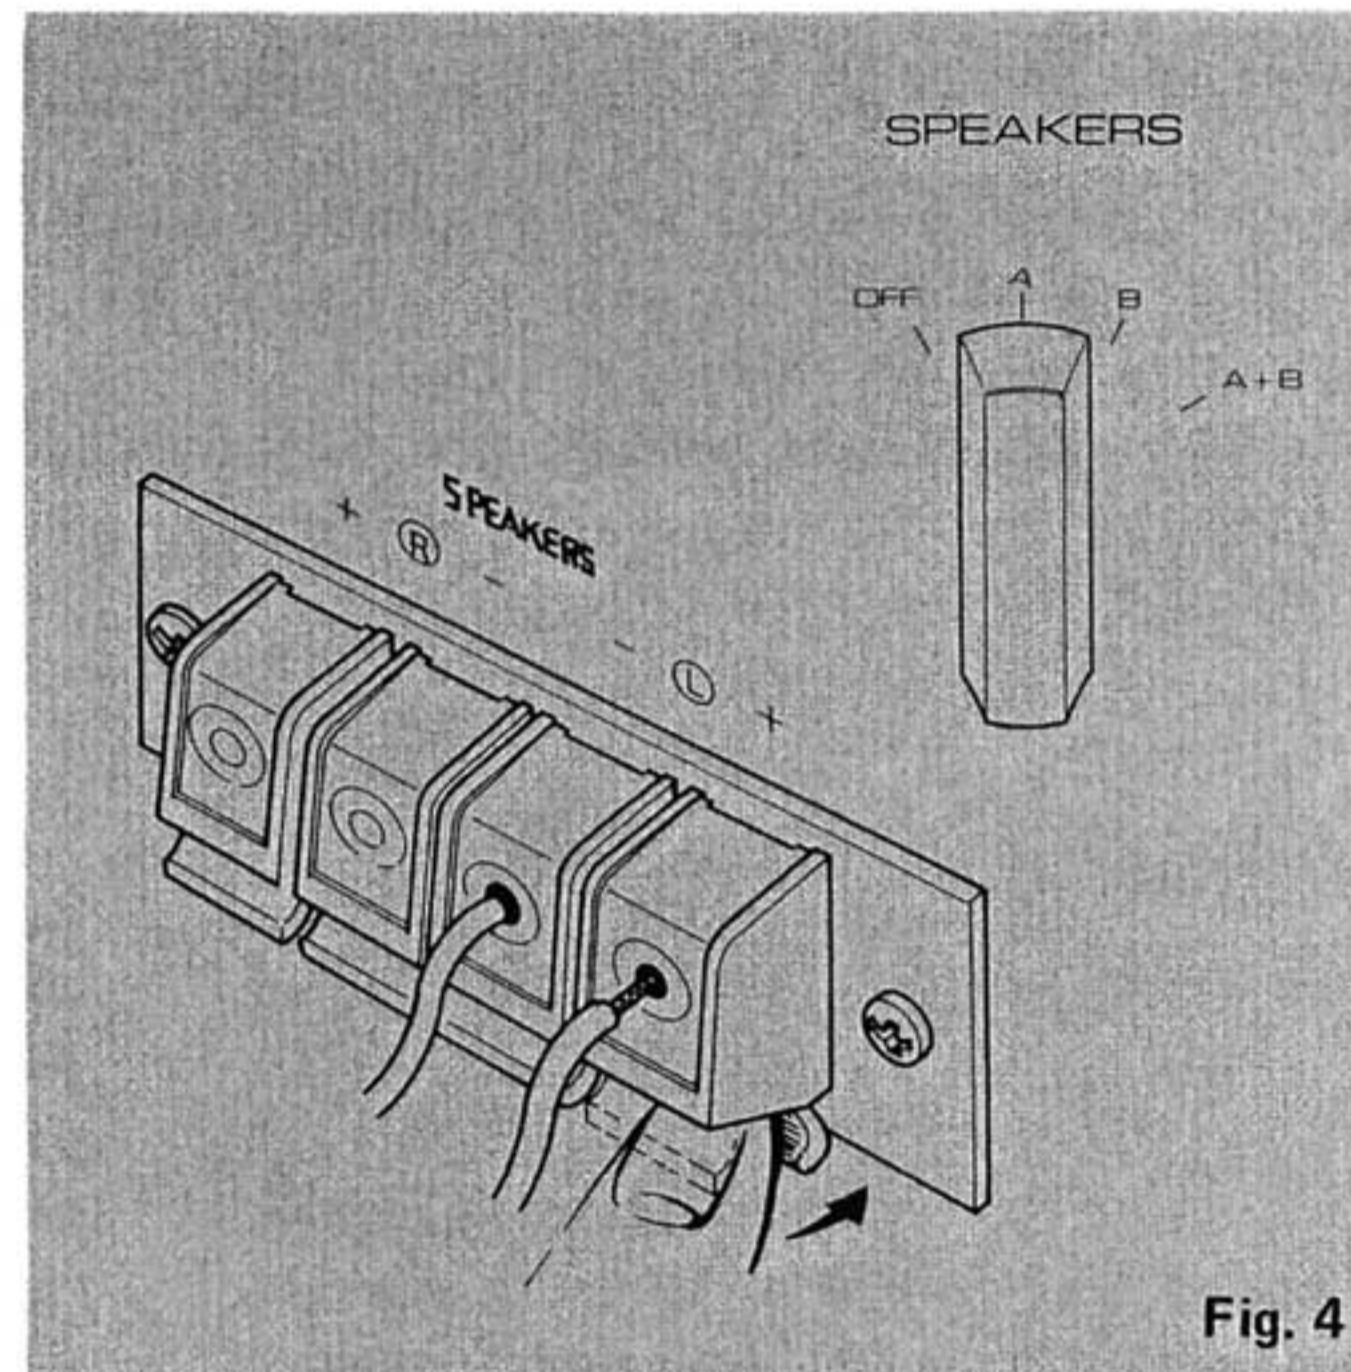

Fig. 4
4. These terminals are push-spring types. As shown in Fig. 4, first push back on the bottom lever of the terminal, then insert the stripped end of the lead and hold it in place while you release the lever.